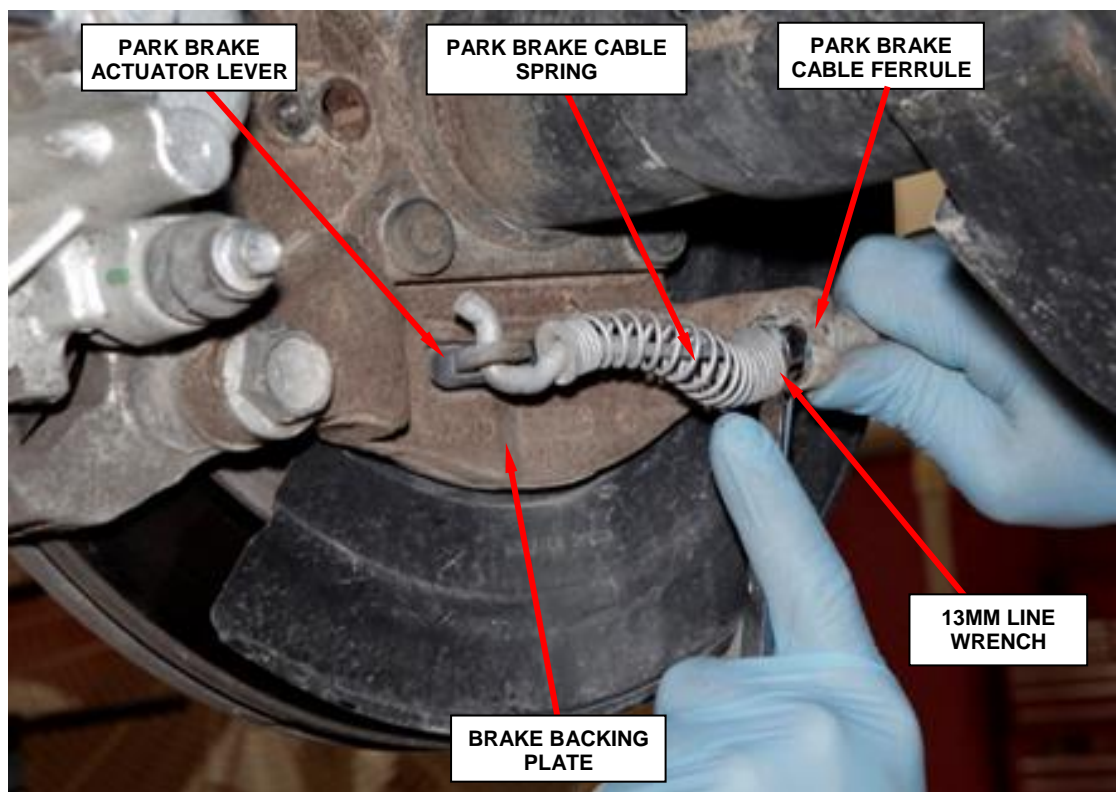

Figure 10 - Park Brake Cable
- c. Pull the park brake cable spring back (Figure 10).
- d. Compress the retaining tabs on each park brake cable ferrule at the brake backing plate using a 13 mm line wrench (Figure 10).
- e. Remove the park brake cable from the brake backing plate (Figure 10).
- f. Remove the park brake cable from the park brake actuator lever (Figure 10).